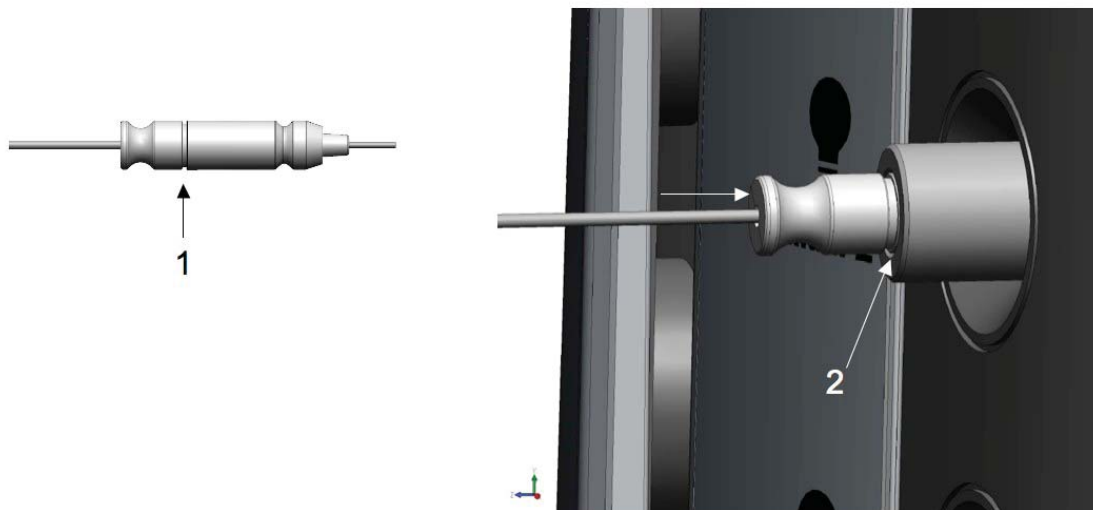

Figure 4.7. Connecting fiber optic connector to the illumination port
1. Connect the fiber optic illuminator to the desired port (see Figure 1.22). Push the connector into the port until the groove on the connector is aligned with the front surface of the port receptacle. See Figure 4.7. (Scrub nurse or Circulating nurse)